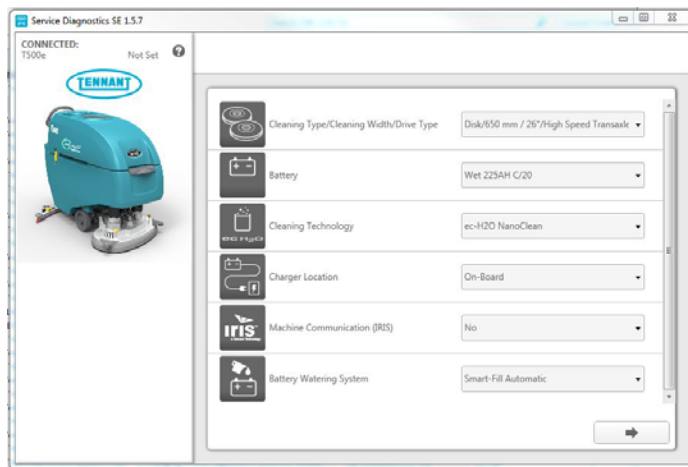

Fig. 8
7. Carefully select the all the installed options on the machine (Figure 8). This may visually require inspecting the machine to confirm all the installed options. Press the arrow button to advance to next screen.